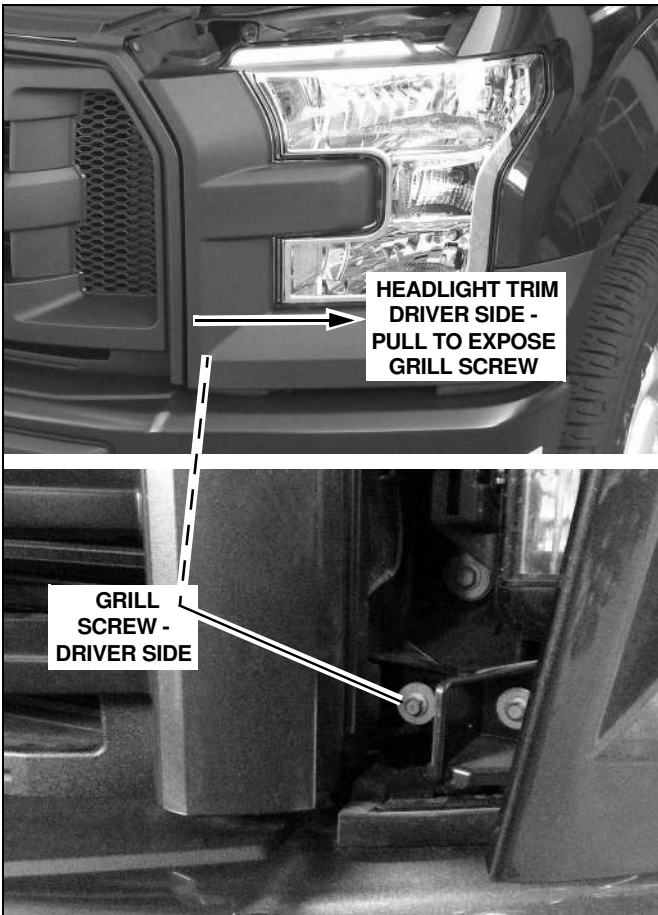

Figure 7
3. Pull the trim away from the headlights and grill just enough to access the remaining 2 screws holding in the grill. Remove 1 screw on each side of the grill. Also disconnect any harnesses running to the grill and any other rubber trim between the headlights and grill. (See Figure 7)